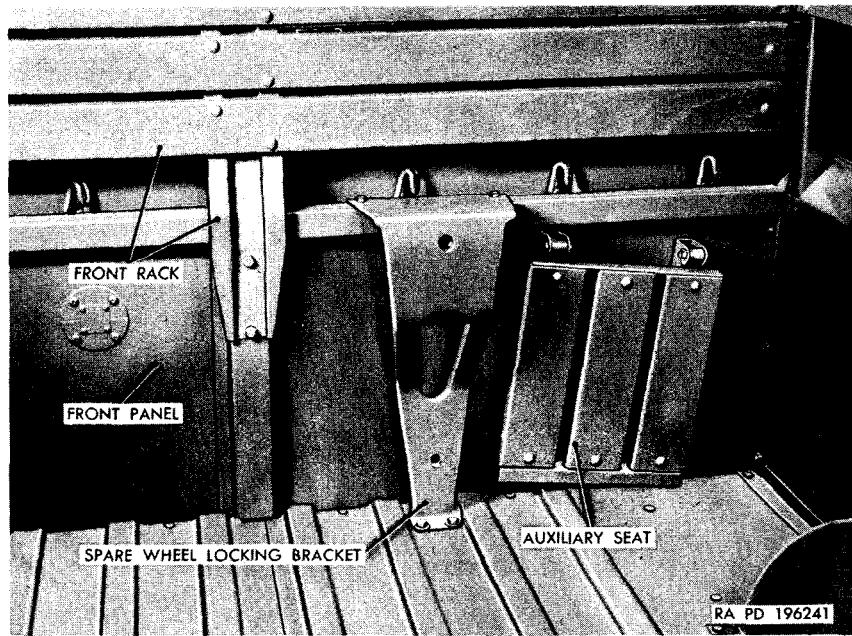

Figure 5. Front body panel and related parts (cargo truck M37)
- (a) *Cargo truck M37*. The cargo truck M37 (fig. 1) has an open-type steel body with folding troop seats, removable front rack, seat back, and supports. The spare wheel is mounted on a bracket attached to the front panel. An auxiliary seat, attached to the front panel at the right of the spare wheel locking bracket (fig. 5), is usable when the spare wheel is removed. A roof paulin, supported by bows, covers the cargo compartment. Canvas front and rear end curtains are provided with windows.